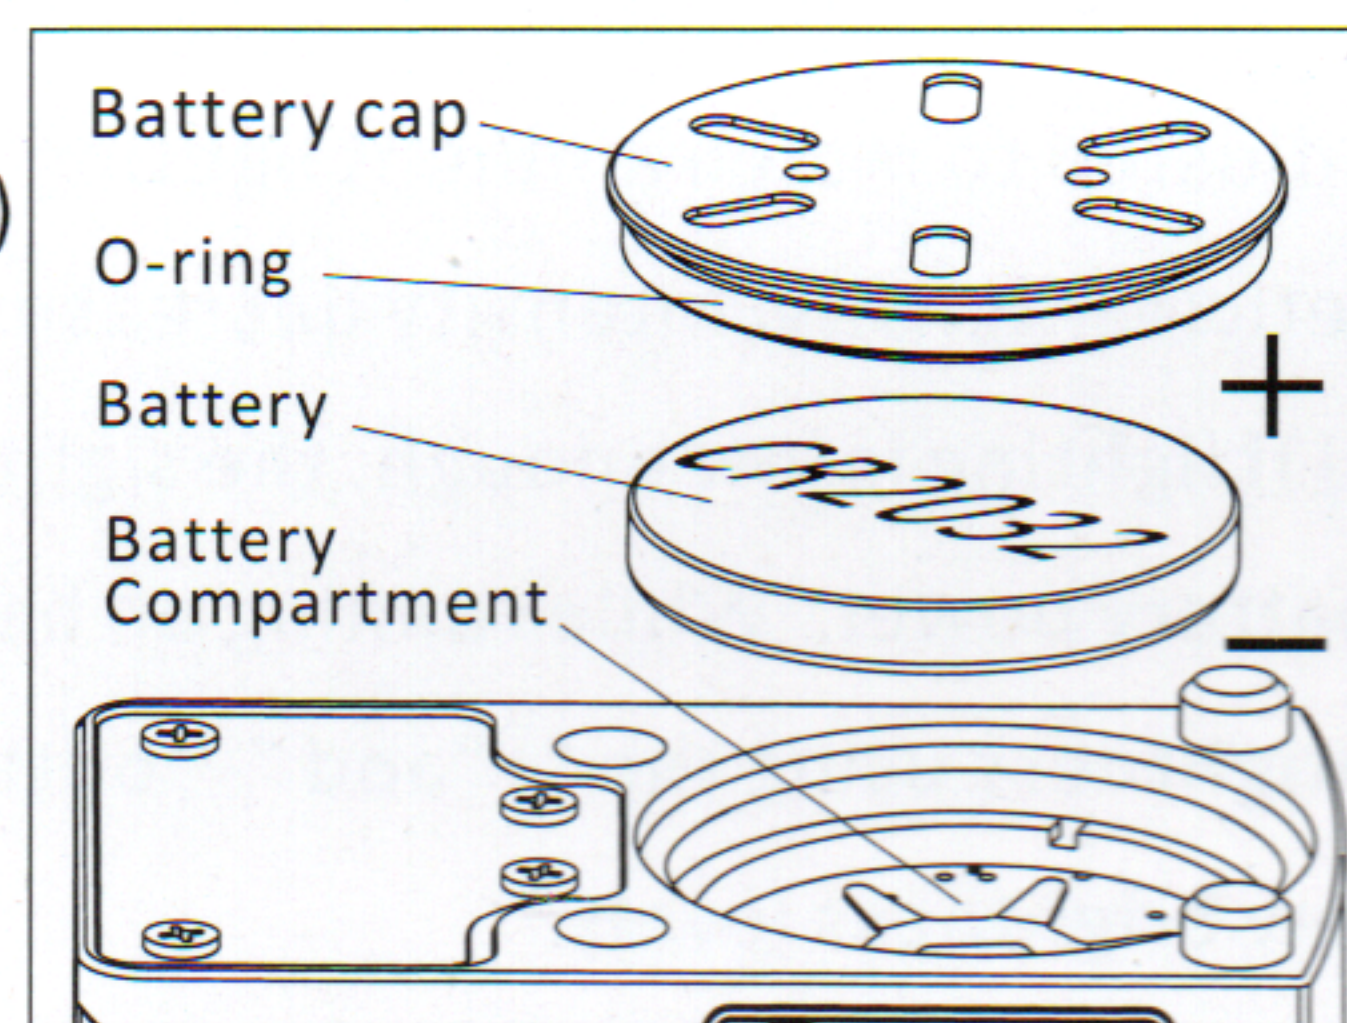

Fig 3-3
- 2) Unscrew the battery cap using the included special tool (Fig 3-2) as shown in (Fig 3-3).
- 4) Replace the battery cap and tighten snugly using the included special tool (Fig 3-2) according to (Fig 3-3).